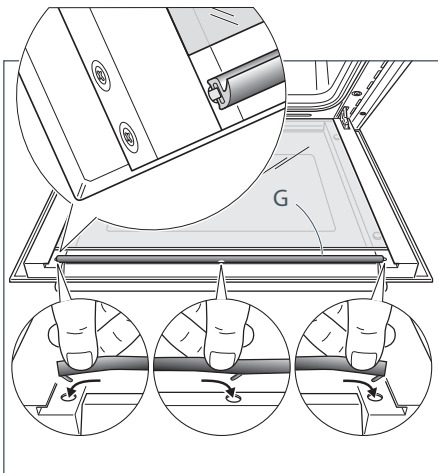

Fig.47e
- Replace the seal "G" by hooking in the three fixing hooks. Make sure that you put it in the correct way (Fig. 47e).